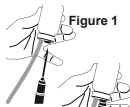

Figure 1
- 3 Carefully place the spear into the grommet of the priming bottle. (Figure 1 and 2).